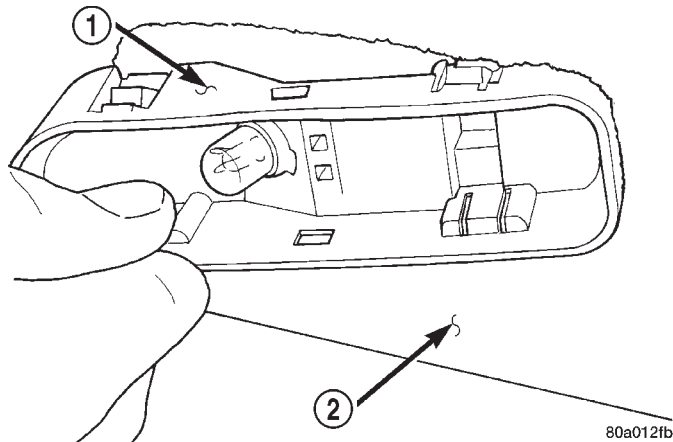

Fig. 8 Courtesy Lamp
- (2) Pull courtesy lamp from door trim panel (Fig. 8).
- (3) Disengage wire connector from courtesy lamp bulb socket.
- (1) Position courtesy lamp from vehicle.
- (2) Connect wire connector to courtesy lamp bulb socket.
- (3) Push courtesy lamp into door trim panel (Fig. 8).
- (4) Insert front edge of courtesy lamp lens to lamp housing.
- (5) Snap lamp lens into lamp housing.